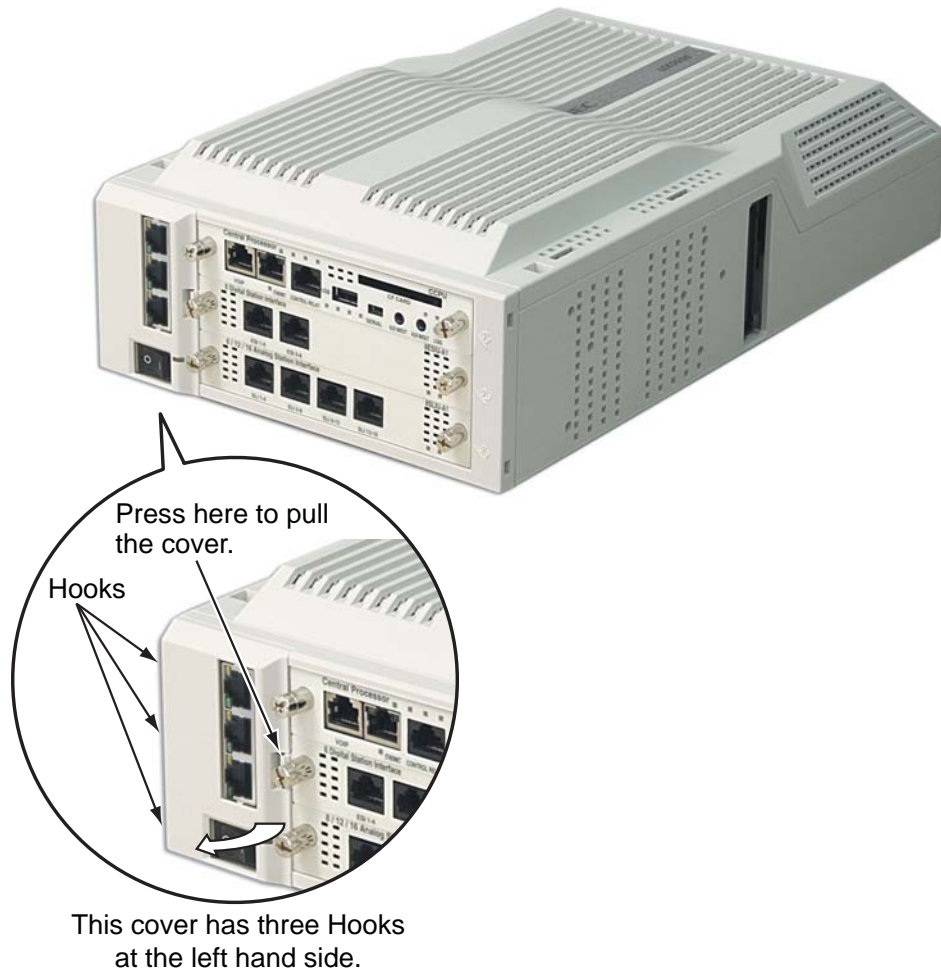

Figure 2-8: REMOVING THE EXIFU COVER
2.4.2.2 Removing the EXIFU Cover (Figure 2-8)